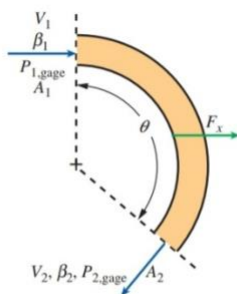

FIGURE P6-47
**6-47** An incompressible fluid of density  $\rho$  and viscosity  $\mu$  flows through a curved duct that turns the flow through angle  $\theta$ . The cross-sectional area also changes. The average velocity, momentum flux correction factor, gage pressure, and area are known at the inlet (1) and outlet (2), as in Fig. P6-47. (a) Write an expression for the horizontal force  $F_x$  of the fluid on the walls of the duct in terms of the given variables. (b) Verify your expression by plugging in the following values:  $\theta = 135^\circ$ ,  $\rho = 998.2 \text{ kg/m}^3$ ,  $\mu = 1.003 \times 10^{-3} \text{ kg/m}\cdot\text{s}$ ,  $A_1 = 0.025 \text{ m}^2$ ,  $A_2 = 0.050 \text{ m}^2$ ,  $\beta_1 = 1.01$ ,  $\beta_2 = 1.03$ ,  $V_1 = 6 \text{ m/s}$ ,  $P_{1,\text{gage}} = 78.47 \text{ kPa}$ , and  $P_{2,\text{gage}} = 65.23 \text{ kPa}$ . (Hint: You will first need to solve for  $V_2$ .) (c) At what turning angle is the force maximized? Answers: (b)  $F_x = 5500 \text{ N}$  to the right, (c)  $180^\circ$